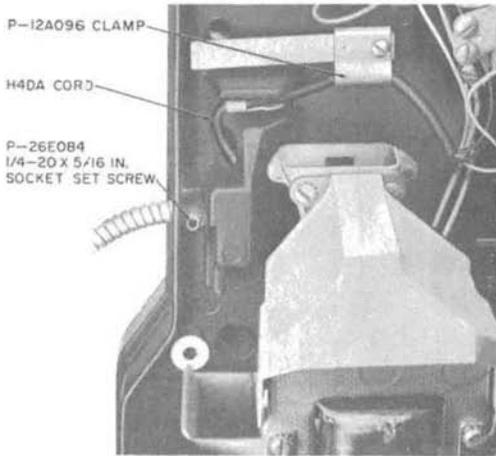

Fig. 17—Installation of Armored Cord
- (6) Clean metal shavings from the cord entrance hole.
- (7) Using the pull-in wire placed in step 2, pull in the new cord.
- (8) Remove the pull wire from new cord and fasten a P-12A096 clamp over the cord (Fig. 17).
(9) A P-26E084 1/4-20 by 5/16-inch self-locking setscrew is used to secure the cord to the coin collector backplate (Fig. 17). A flat surface is located approximately 1/4-inch from the set end of the stainless steel flexible hose. Using a 1/8-inch Allen wrench, screw the socket setscrew into the hole drilled in step 4 until it just makes contact with the flat surface of the metal hose. Give the setscrew a minimum of 1/4 turn and a maximum of 1/2 turn. This should hold the cord firmly in the coin collector.